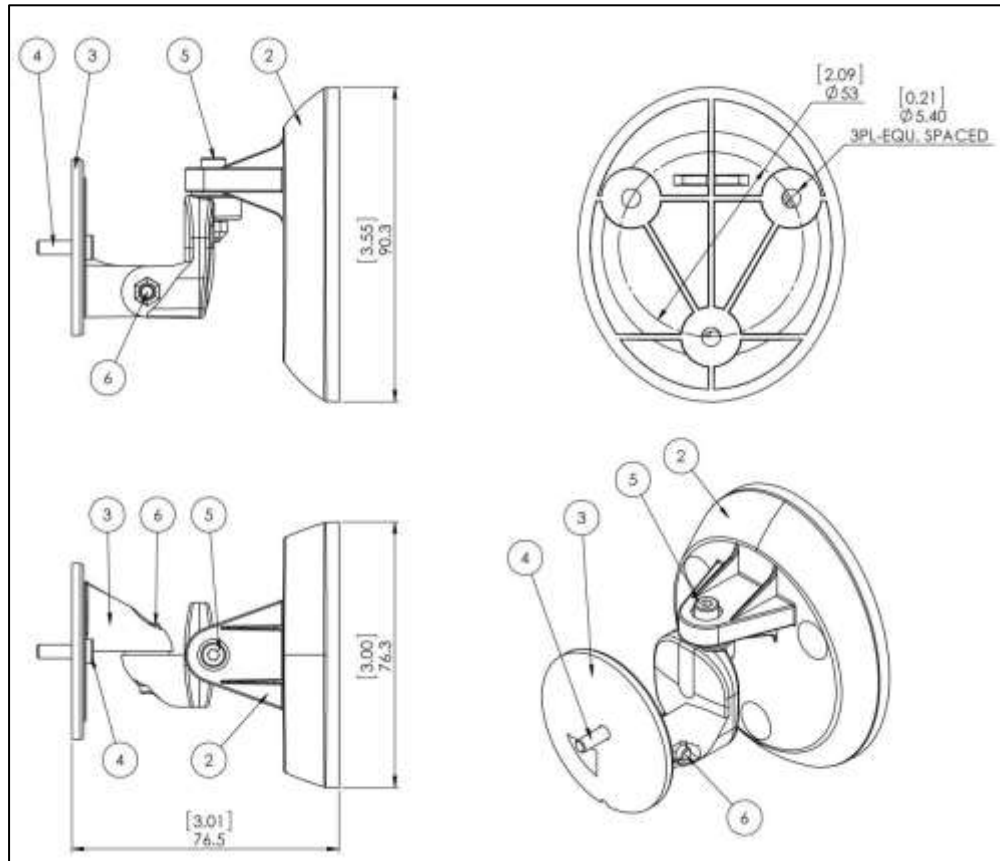
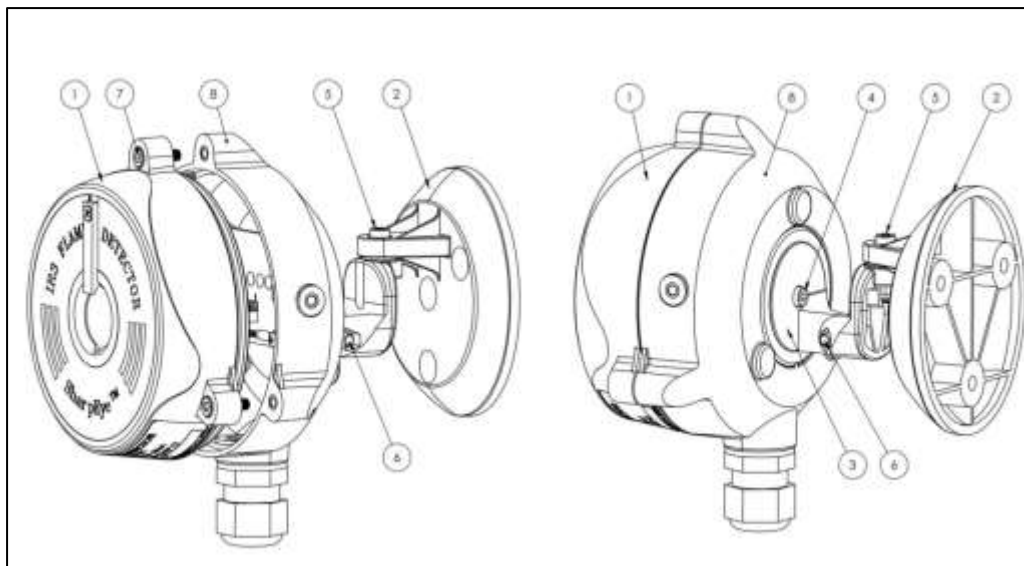

Figure 4: Tilt Mount Assembly - Outline Drawing
Figure 5: IR3 Detector and Tilt Mount Assembly
Refer to *Figure 4* and *Figure 5*.
- 2** Place the tilt mount (item 2) in its designated location and secure it with three (3) fasteners through three (3) holes dia. 5.4mm (*Figure 4*).
- 3** Place the detector, with its gland pointing down, on the holding plate of the tilt mount (item 3). Secure the detector by one holding screw **M4 x 12" to the Tilt Mount. Use 3 mm Hex Key for M4 screw** (see item 4 on *Figure 5*).
- 4** Release the locking screws (items 5 and 6 in *Figure 5*) in such a way that allows rotating the detector. Point the detector towards the protected area and make certain that the view of the area is unobstructed. Secure the detector in that position by tightening the locking screws (items 5 and 6) on the tilt mount. (Make sure the detector is in the right position.)
- a** Remove the three (3) socket-head captive screw M4-13 that secure the detector housing (item 1 on *Figure 5*) to its back cover (item 8) using the 3 mm Hex Key. Pull the detector housing from its connection box.
- g** Return the detector housing to the connection box and secure it with the three (3) socket-head screws.